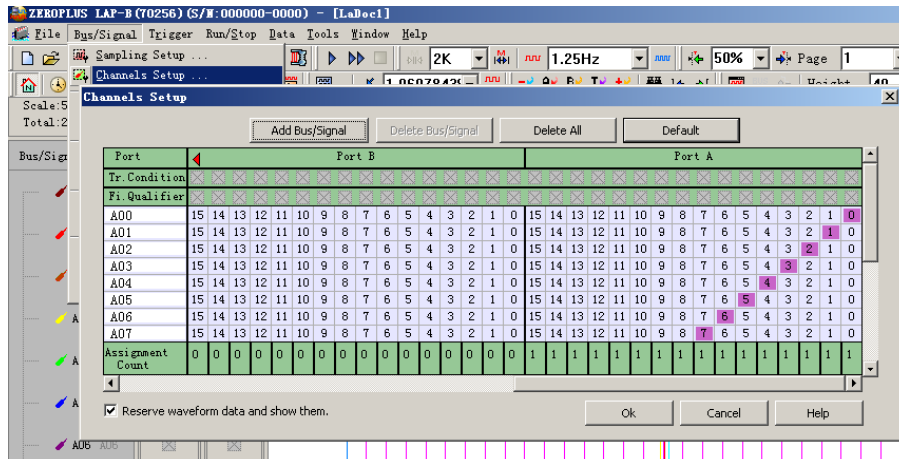

Fig 4-30 – Channels Setup
Click **Channels Setup** on Bus/Signal of the Menu Bar, or click  icon. The dialog box as shown in Fig 4-30 will appear.
3. Default: Click **Default** to restore the dialog box of Channels Setup as shown in Fig 4-30.